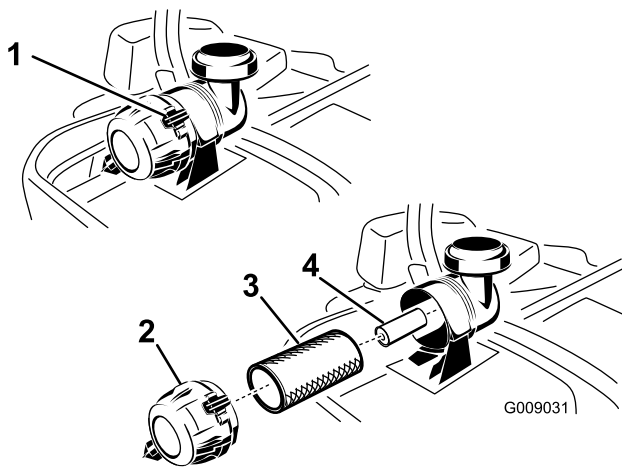

Figure 41
3. Push down to release the retaining clamps on the air cleaner and pull the air cleaner cover off of the air cleaner body (Figure 41).
5. Gently slide the primary filter out of the air cleaner body (Figure 41). Avoid knocking the filter into the side of the body.
1. Do not clean the paper filter, replace it (Figure 41).
2. If the secondary filter is being replaced, carefully slide it into the filter body (Figure 41).
3. Carefully slide the primary filter over the secondary filter (Figure 41). Ensure that it is fully seated by pushing on the outer rim of the filter while installing it.
4. Install the air cleaner cover with the breather cap down and rotate so the retaining clamps lock the cover in place (Figure 41).